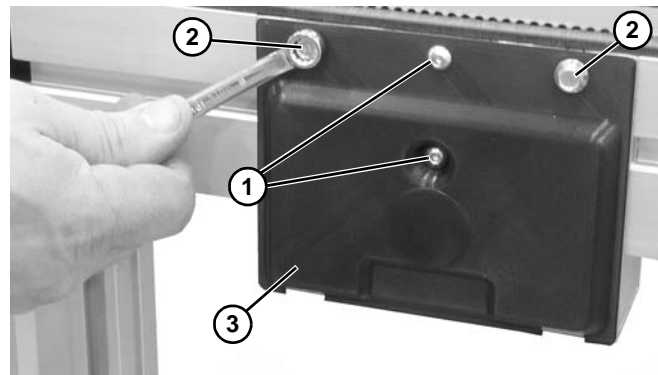

Figure 29
2. Remove button head screws (Figure 29, item 1).
3. Remove hex flange screws (Figure 29, item 2) and mid drive cover (Figure 29, item 3).